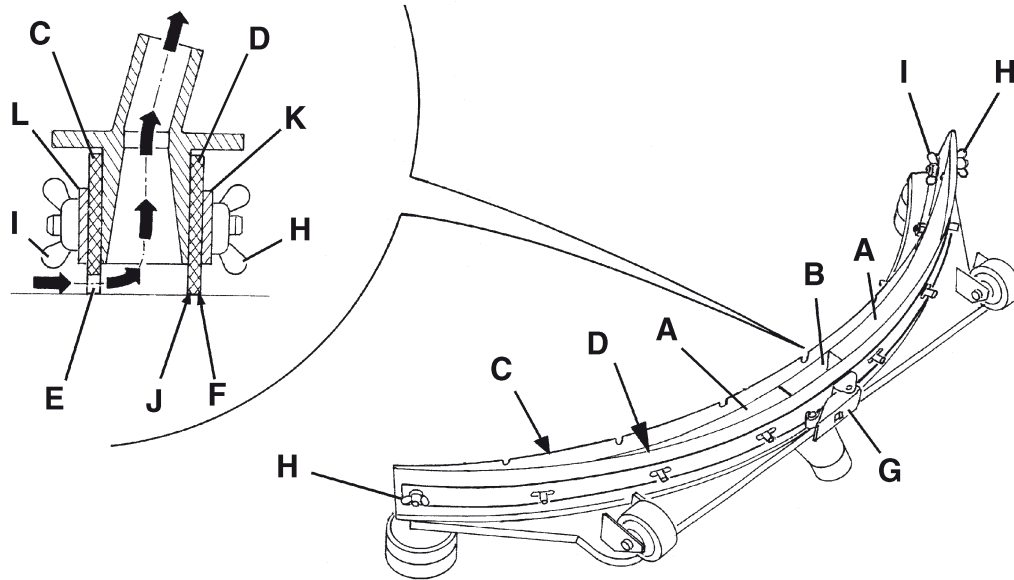
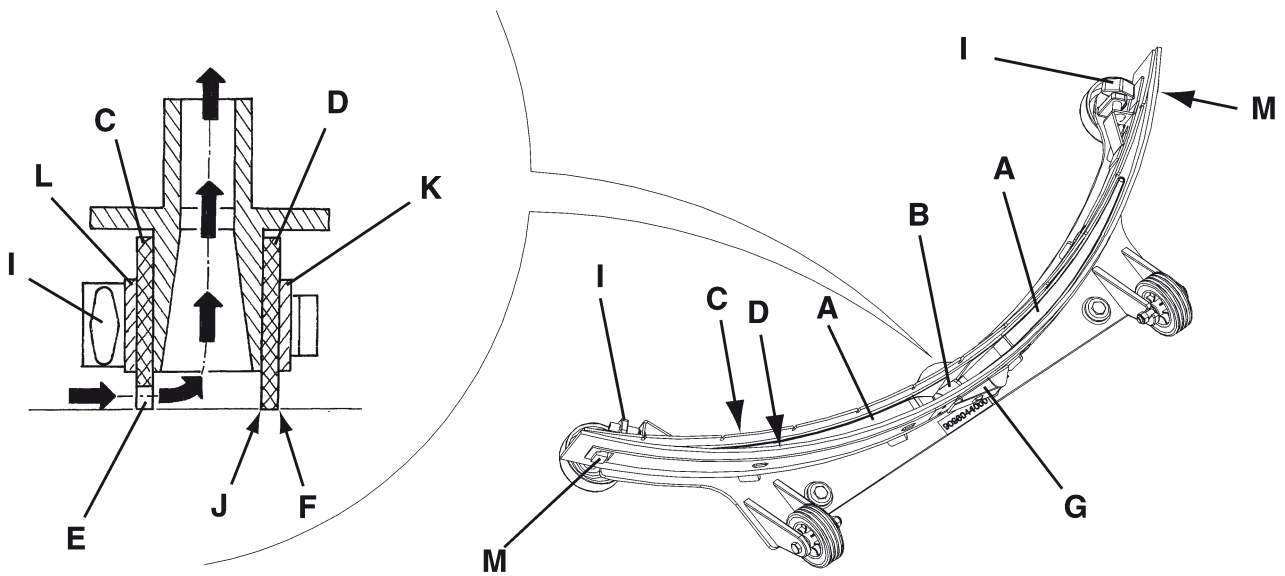

Fig. 1
Fig. 2
- (For **Adfinity™ 20 D, X 20 D, X 20 C, X 24 D**) Turn the ignition key (80) to "0".
- (For **Adfinity™ 17 ST, 20 ST**) Turn off the switches (71) and (73).
3. Lower the squeegee (25) with the lever (10).
4. Loosen the handwheels (26) and remove the squeegee (25).
5. Disconnect the vacuum hose (15) from the squeegee.
6. Clean the steel squeegee (Fig. 1) or the aluminium squeegee (Fig. 2). Clean the compartments (A, Fig. 1 or 2) and the hole (B) especially. Check the front blade (C) and the rear blade (D) for integrity, cuts and tears; otherwise replace them (see the procedure in the following paragraph).
1. Clean the steel squeegee (Fig. 1) or the aluminium squeegee (Fig. 2), according to the procedure shown in the previous paragraph.
2. Check that the edges (E, Fig. 1 or 2) of the front blade (C) and the edges (F) of the rear blade (D) lay down on the same level, along their length; otherwise adjust their height according to the following procedure:
- Release the tie rod (G, Fig. 1 or 2) and loosen the wing nuts (H, Fig. 1), or disengage the fasteners (M, Fig. 2) and adjust the rear blade (D, Fig. 1 or 2), then tighten the wing nuts, or engage the fasteners, and then engage the tie rod.
- Loosen the handwheels (I) and adjust the front blade (C, Fig. 1 or 2); then tighten the handwheels.
3. Check the front blade (C, Fig. 1 or 2) and rear blade (D) for integrity, cuts and tears; if necessary replace them according to the following procedure. Check that the front corner (J) of the rear blade is not worn; otherwise, overturn the blade to replace the worn corner with an integral one. If the other corners are worn too, replace the blade according to the following procedure:
- Release the tie rod (G), remove the wing nuts (H) or disengage the fasteners (M), remove the retaining strip (K), then replace/overturn the rear blade (D). Then install the blade in the reverse order of removal.
- Unscrew the handwheels (I) and remove the retaining strip (L), then replace the front blade (C). Install the blade in the reverse order of removal.